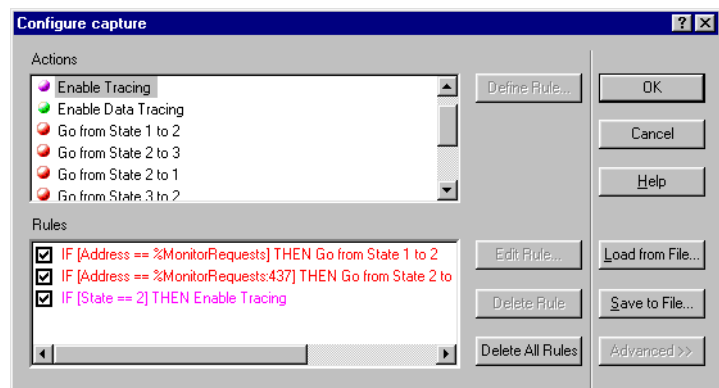

Figure 8-43 Configure capture dialog box
4. Click **Finish** to create this rule. The Configure capture dialog box is updated as shown in Figure 8-43.